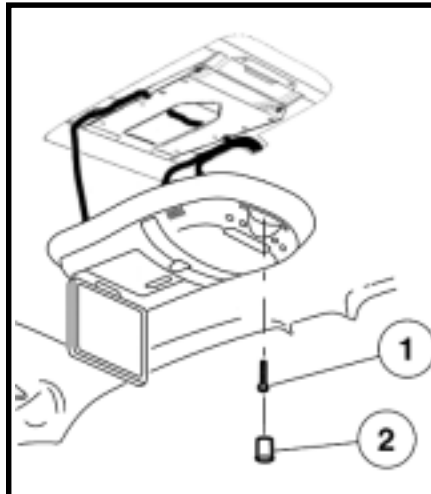

FIGURE 43
2. MOUNT THE DVD ASSEMBLY TO THE BRACKET USING A SCREWDRIVER AND THE FIVE DVD ASSEMBLY MOUNTING SCREWS AS DESCRIBED IN THE FOLLOWING. (SEE FIGURES 43 AND 44)
3. INSERT SUPPLIED RUBBER PLUG (2) INTO REAR SCREW HOLE. (SEE FIGURE 43)